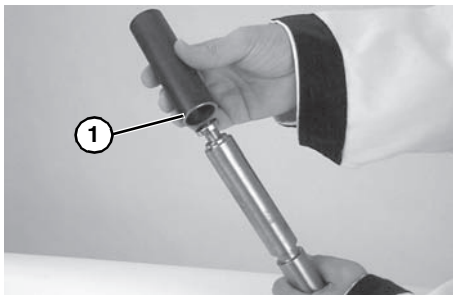

Figure 42
4. Slide sleeve (**Figure 42, item 1**) of tool over bearing.